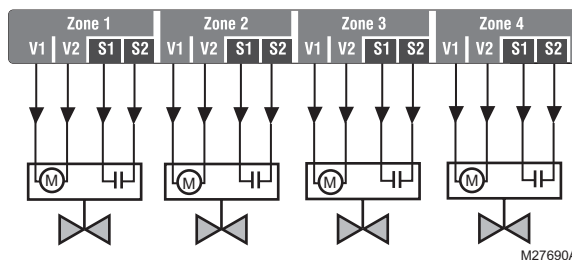

Fig. 13. Wiring an AQ15740B Zoning Module for use with low voltage zone valves with end switches.
2. Low voltage zone valves with end switches: See Fig. 13. 24 Vac power is pre-wired between the transformer secondary at the top left of the AQ252's transformer and the AQ15740B Zoning Module. No field wiring is required.